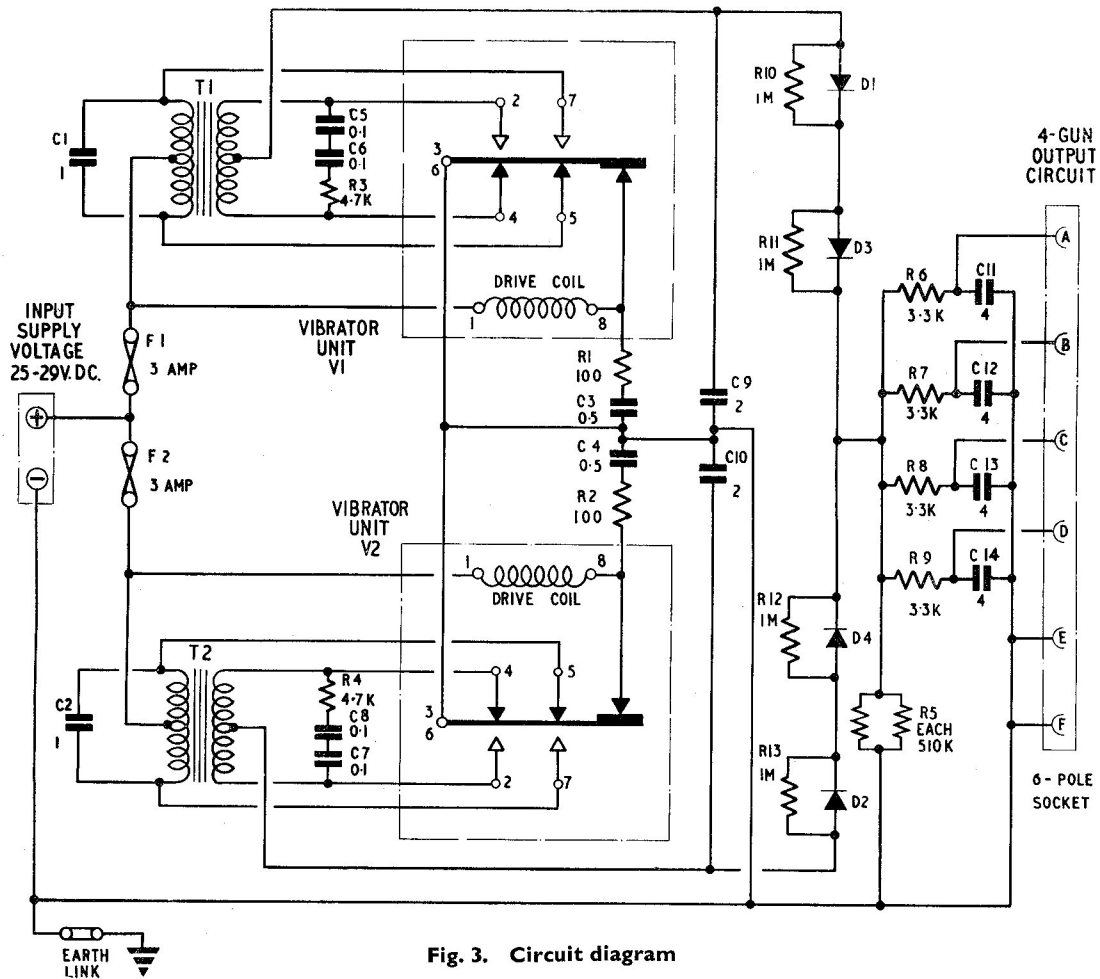

Fig. 3. Circuit diagram
4. The common four gun output circuit comprising resistors R6, R7, R8, R9 and capacitors C11, C12, C13, C14, is fed from the two identical circuits, No. 1 and No. 2 (fig. 3). Since the two circuits are identical a description of No. 1 circuit only will be given.
8. Two resistors (R5), each of 510,000 ohms are connected in parallel across the output resistor, capacitor, network (fig. 3), to ensure that the output capacitors are *not* left in a
13. Dimensions of the power unit are shown on installation drawing (fig. 3).